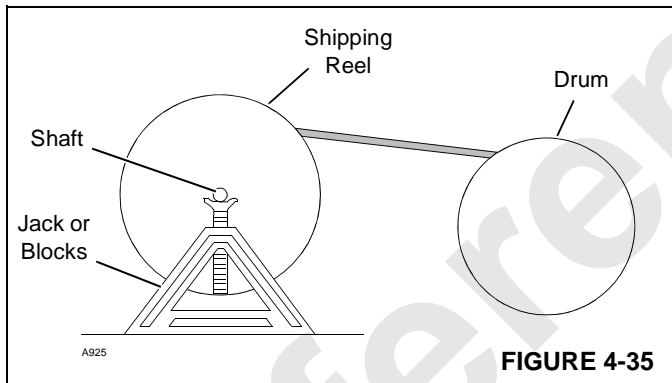

FIGURE 4-35
1. Mount wire rope shipping reel on a shaft supported at both ends by jacks or blocks as shown in Figure 4-35.